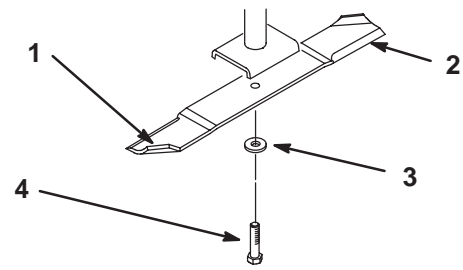
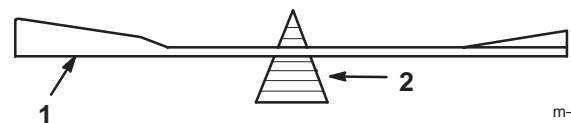

Figure 30
Figure 32
Hold the blade end using a rag or thickly-padded glove. Remove the blade bolt, spring disk, and blade from the spindle shaft (Fig. 30).
2. Check the balance of the blade by putting it on a blade balancer (Fig. 32). If the blade stays in a horizontal position, the blade is balanced and can be used. If the blade is not balanced, file some metal off of the end of the sail area only (Fig. 30). Repeat this procedure until the blade is balanced.
1. Install the blade onto the spindle shaft (Fig. 30).
2. Install the flat washer, lock washer, and blade bolt (Fig. 30). Torque the blade bolt to 85–110 ft-lb (115–150 N·m).